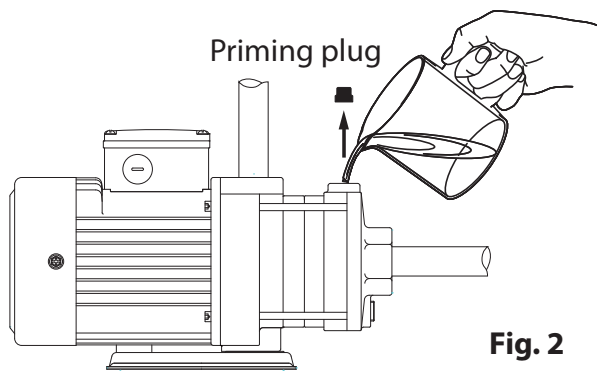

Fig. 2
5.3.2.2 Remove the priming plug, fig. 2.